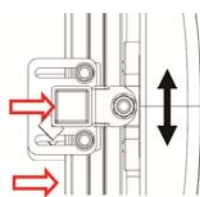

Figure 5-49
5.3.3.5.4.2 When adjusting the calf pad leftwards or rightwards, use the #4 Allen Key Wrench to loosen the bolts. (Figure 5-49) After adjusting the calf pad to the appropriate position, re-tighten the bolts.